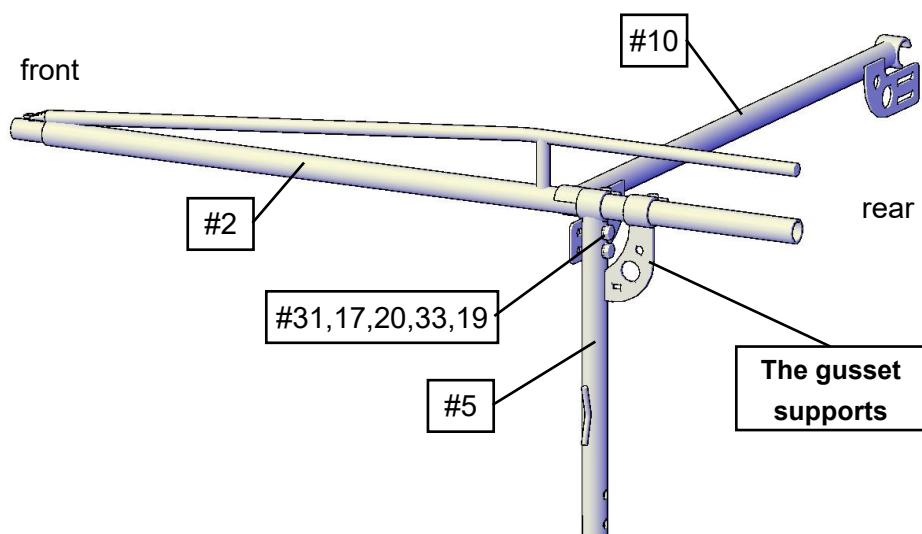

Fig.6
Attach using the 2-M12x70 bolts (#31), flat washer (17) (20) , spring washer (33) and Nut (19) (see the Accessory bolt set "G") Tighten snug but not completely. (Fig.6)